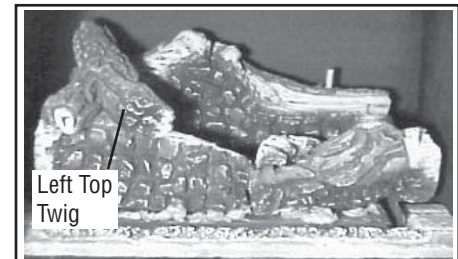

Figure 14
6. Install the left top twig onto the corresponding pin on the rear log and align it with the indentation on the front left log as shown in figure 14.